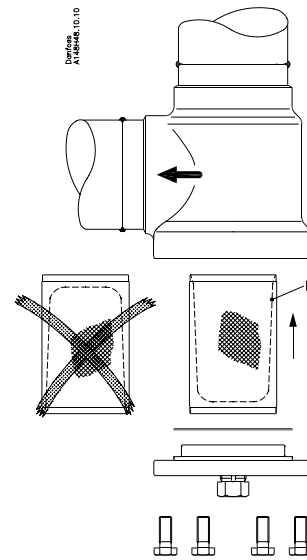

Fig. 4
**Mounting of accessory:****Filter bag (fig. 4)**
When mounting the filter bag, which is held in place by a filter holder, the utmost care must be taken to place the filter bag correctly in the filter as shown in fig. 4. The flow must go into the filter bag cavity and out or else the bag will not function properly.